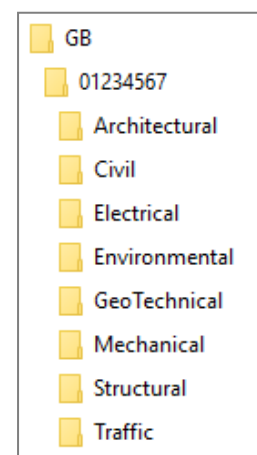

Figure 1.5.1-1
The "M:\\" drive is divided into Facility Folders, each containing project specific sub-folders. These project folders are named using the eight (8)-digit PID number. **Figure 1.5.1-1** illustrates this concept using a project at Goethals Bridge with a PID number of 01234567.